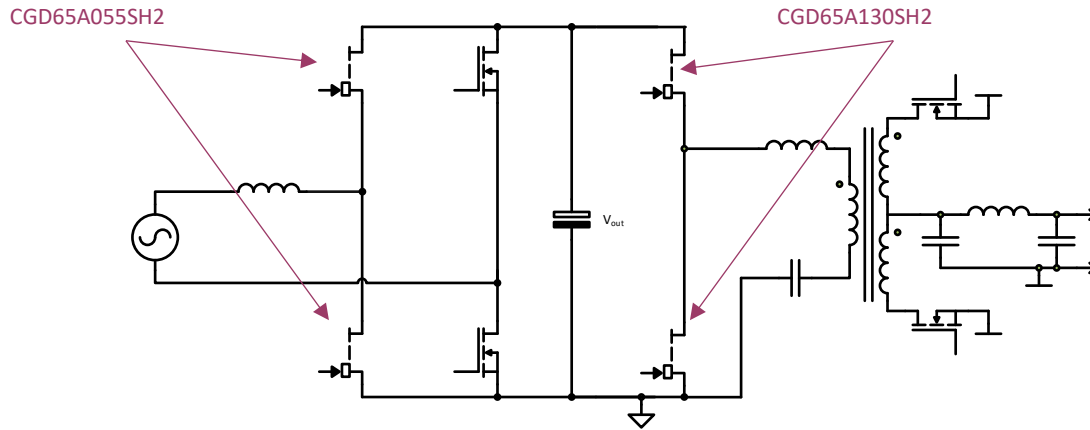

Figure 1 - Reference design functional schematics
This reference design is a two-stage converter. The front-end stage topology is a critical conduction mode (CrCM) bridgeless totem-pole PFC and the output stage topology is a half-bridge LLC with secondary side synchronous rectifiers (SR). A simplified schematics is illustrated in Figure 1.